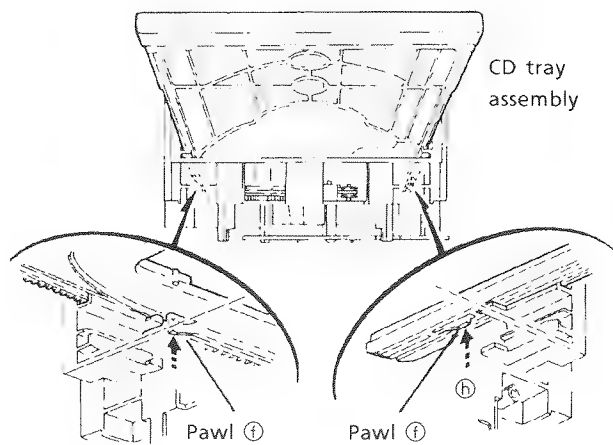

Fig. 35
14. Press 2 pawls (f, f') located rear side of the CD tray ass'y according to an arrow ⑨ to remove the CD tray ass'y. (See Fig. 35.)